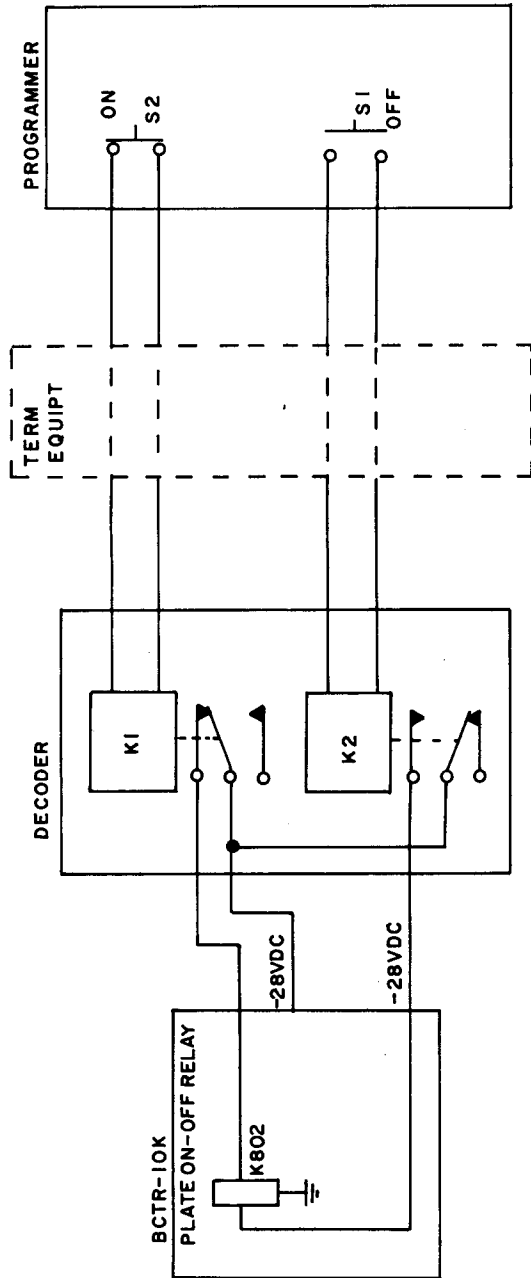

Figure 3-6 Plate ON-OFF Control
f. PLATE ON-OFF CONTROL (Refer to Figure 3-6). - To apply plate voltage to the BCTR-10K transmitter from a remote position, switch S2 must be depressed on the Programming unit.